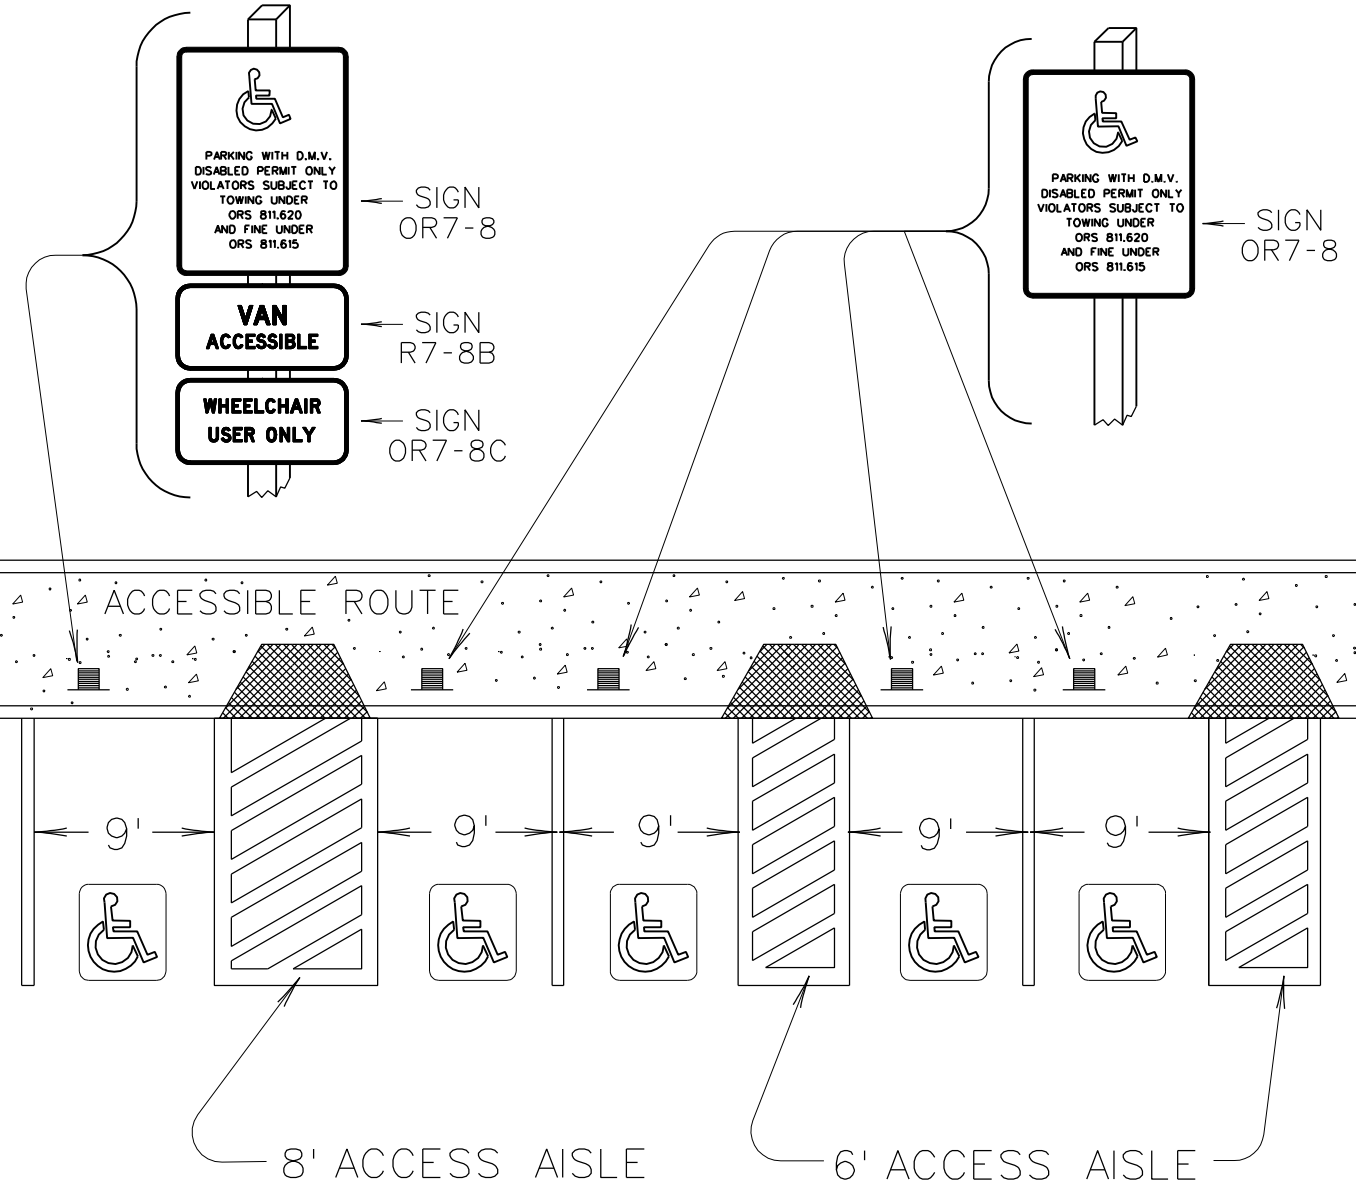

Figure 4
- Where five or more parking spaces are designated accessible, any space that is designated "van accessible" shall be reserved for wheelchair users. **Figure 4.**
- Each accessible space designated "wheelchair user only" shall have signs (OR7-8), (R7-8B) and (OR7-8C). Mount as shown in **Figure 4**.